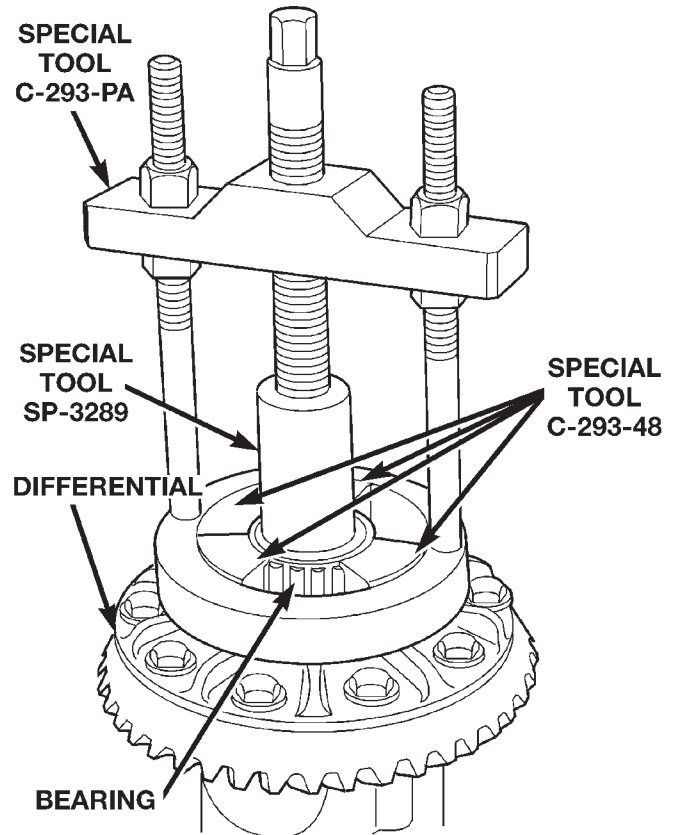

Fig. 20 Differential Bearing Removal
- (1) Remove differential case from axle housing.
- (2) Remove the bearings from the differential case with Puller/Press C-293-PA and Adapters C-293-48 and Plug SP-3289 (Fig. 20).